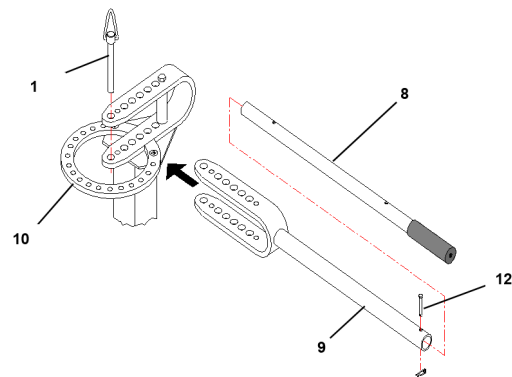

Figure 5-4
1. Place the Outer Handle Die Receiver (#9) between the Ring Assembly / Die Receiver (#10) and secure in place using one of the long hitch pins (#1) as shown in (fig. 5-4). Insert the inner handle (#8) into the outer handle (#9) at the fully extended position and secure with the pin (#12) and clip.